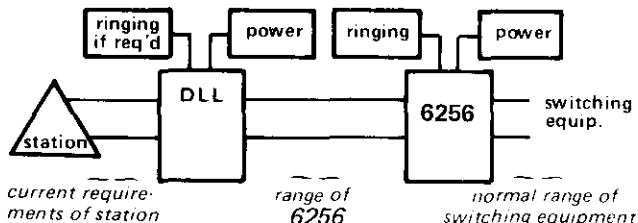

figure 3. Tandem range limits
2.12 When operated in tandem with DLL's, distances from the station to the nearest DLL, and from the switching equipment to the 6256 module on that side of the circuit, continue to be determined, respectively, by current requirements and switching equipment range. Distance between tandem DLL's is limited by the maximum station-side range of the respective DLL's. (Refer to paragraphs 2.06 thru 2.09 and figure 3.)